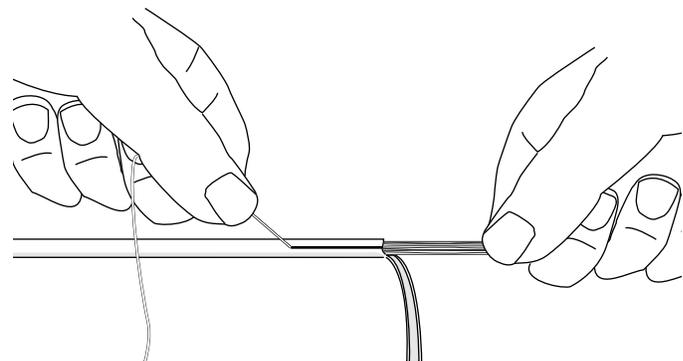

Figure 6
4.5 Pull the rip cord through the outer jacket back to the marked strip length (Figure 6).